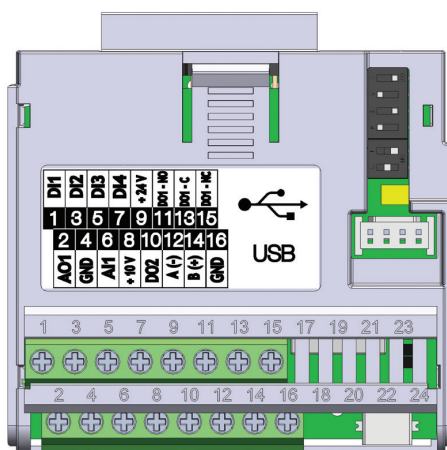

Figure 20.3: Plug-in module CFW500-CUSB
The CFW500-CUSB plug-in module has Serial (1) interface through RS-485 port at terminals 12 (A1-) and 14 (B1+), as well as the Serial (2) interface through USB port at standard connector mini USB (mini B), see Figure 20.3 on page 20-1.